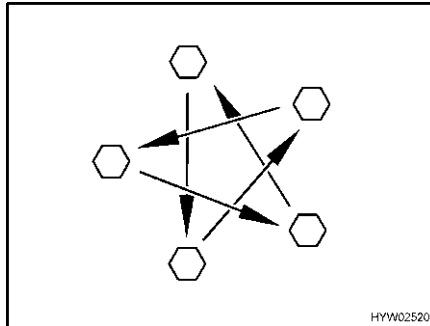

Fig. 275 Tighten the wheel nuts or wheel bolts cross-wise
- Check regularly that the wheel nuts or wheel bolts are firmly seated. Retighten the wheel nuts or wheel bolts of a changed wheel cross-wise (Fig. 275) after 50 km (30 miles). See section 13.5.2 for tightening torque.
- ▷ Tighten the wheel nuts or wheel bolts cross-wise (Fig. 275).